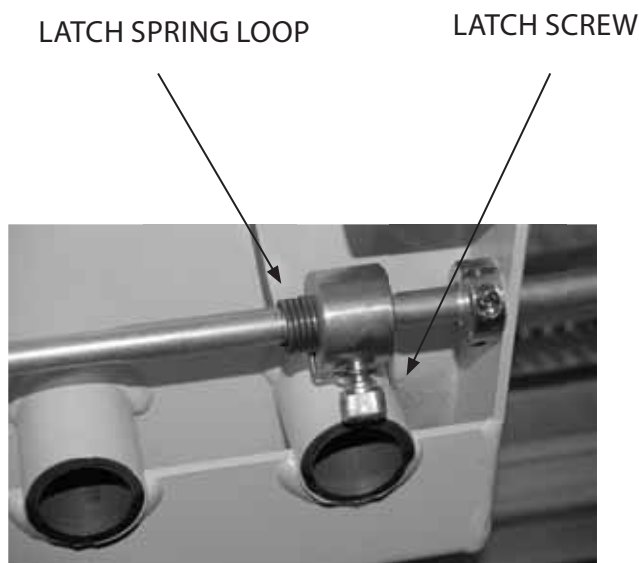

Figure 16-1
1. Verify the latch spring loop is wrapped around the latch screw. [Figure 16-1]